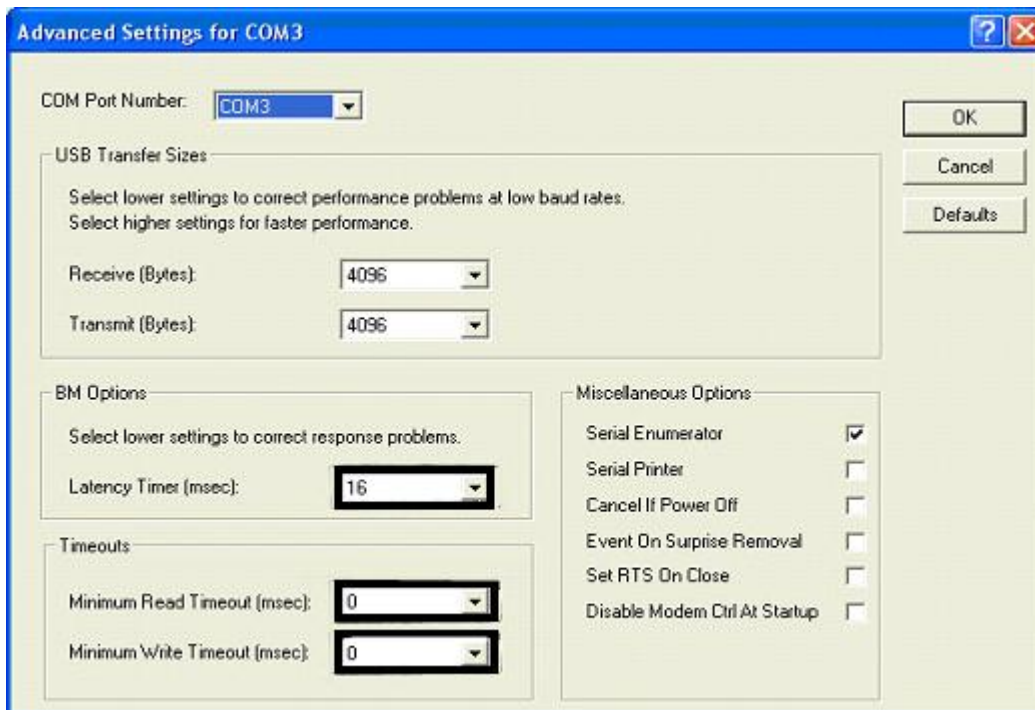

Fig. B.4
- as it is shown in Fig. B.4, and click «**OK**».